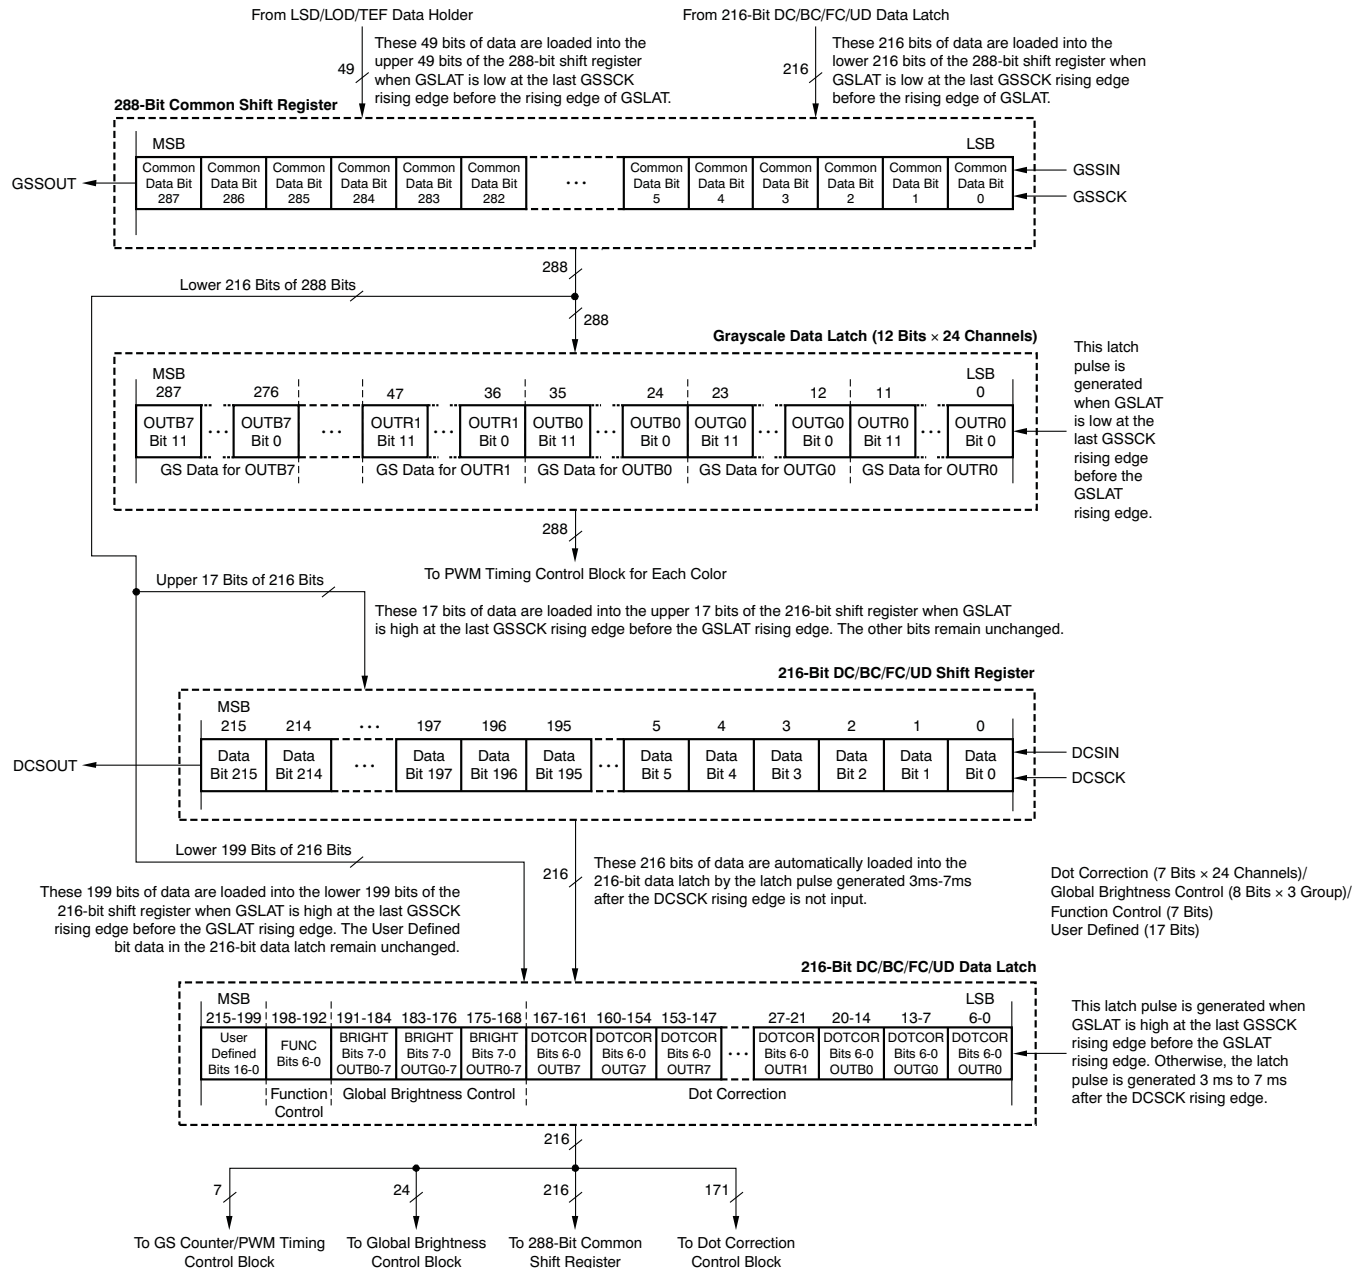

Figure 44. Grayscale Shift Register and Data Latch Configuration
The TLC5951 has two data latches to store information: the grayscale (GS) data latch and the DC/BC/FC/UD data latch. The GS data latch can be written as 288-bit data through GSSIN with GSSCK. The DC/BC/FC/UD data latch can be written as data through DCSIN with DCSCCK. Also, DC/BC/FC data can be written to the DC/BC/FC/UD data latch through GSSIN with GSSCK. UD data are written to the upper 17 bits of the 216-bit DC/BC/FC/UD shift register at the same time. The data in the DC/BC/FC/UD data latch can be read via GSSOUT with GSSCK. Figure 44 shows the grayscale shift register and data latch configuration.